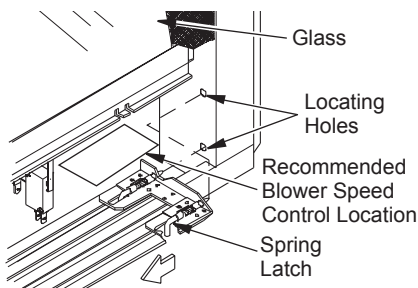
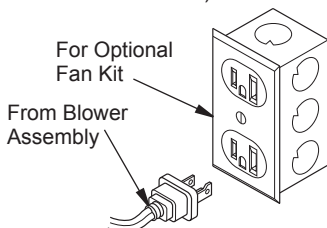

Figure 36 - Removing Louver
Figure 37 - Connecting Blower Accessory to Power Supply
1. To remove louvers, simultaneously pull both top end spring latches towards center of appliance until they are disengaged from locating holes. Repeat for bottom spring latches and pull louvers outward. Reverse procedure to install louvers back onto appliance (see Figure 36).
An outlet box with two receptacles has been supplied for your convenience and is located on the lower right side of appliance (see Figure 37, page 22). The variable speed controller is mounted on a magnetic base and may be positioned anywhere within an accessible distance behind louvered opening (see Figure 36).